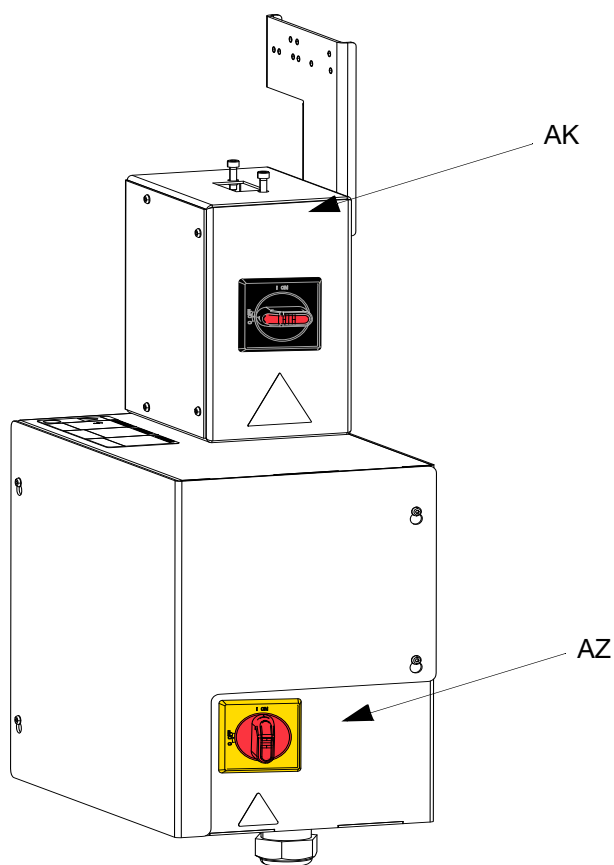

FIG. 4. Power Disconnect
The Disconnect Switch (AZ) is located on the Heat Control Box (AX), see FIG. 4. There is also a red and black Power junction Box Switch (AK) located on the Power Junction Box (AJ). The Power Junction Box Switch (AK) removes power to everything EXCEPT heat. The Disconnect Switch (AZ) removes power to the entire system, including heat.